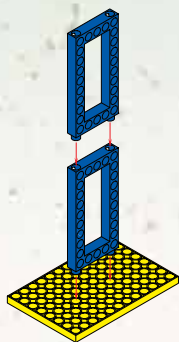

Fig. 2
2. Frames can be connected directly to each other end to end (Fig. 2).